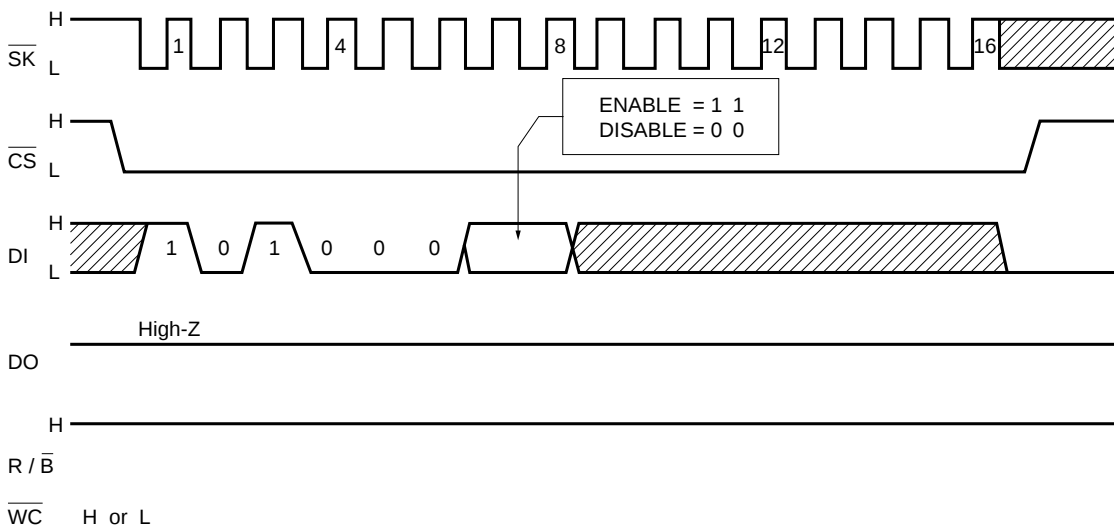

Fig.1
1) After the fall of the 16th clock pulse, 16-bit data is output from the DO pin in synchronization with the falling edge of the $\overline{SK}$ signal. (DO output changes at a time lag of t_{PD0} , t_{PD1} because of internal circuit delay following the falling edge of the SK signal. During the t_{PD0} and t_{PD1} timing, the t_{PD} time should be assured before data is read, to avoid the previous data being lost. See the synchronized data input / output timing chart in Fig. 1.)